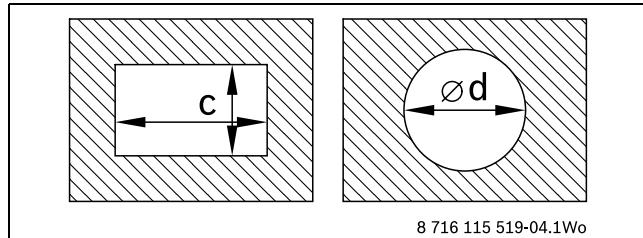

Fig. 3 Chimney sizes
- Ensure the cross section of the chimney complies with table 8 below and figure 3 opposite.